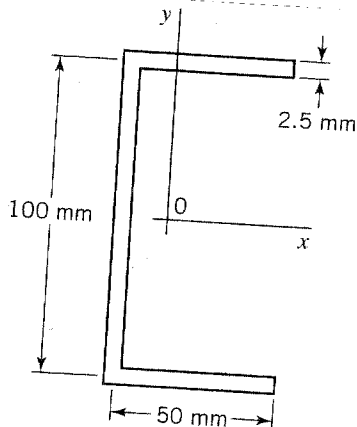

FIGURE P8.25
8.25. The channel shown in Figure P8.25 is subjected to non-symmetric bending. The associated shear forces, which act through the shear center, are $V_x = -2400$ N and $V_y = 1800$ N. Determine the distribution of the shear stress throughout the cross section. Make a sketch, to scale, of the shear stress distribution in the channel walls.